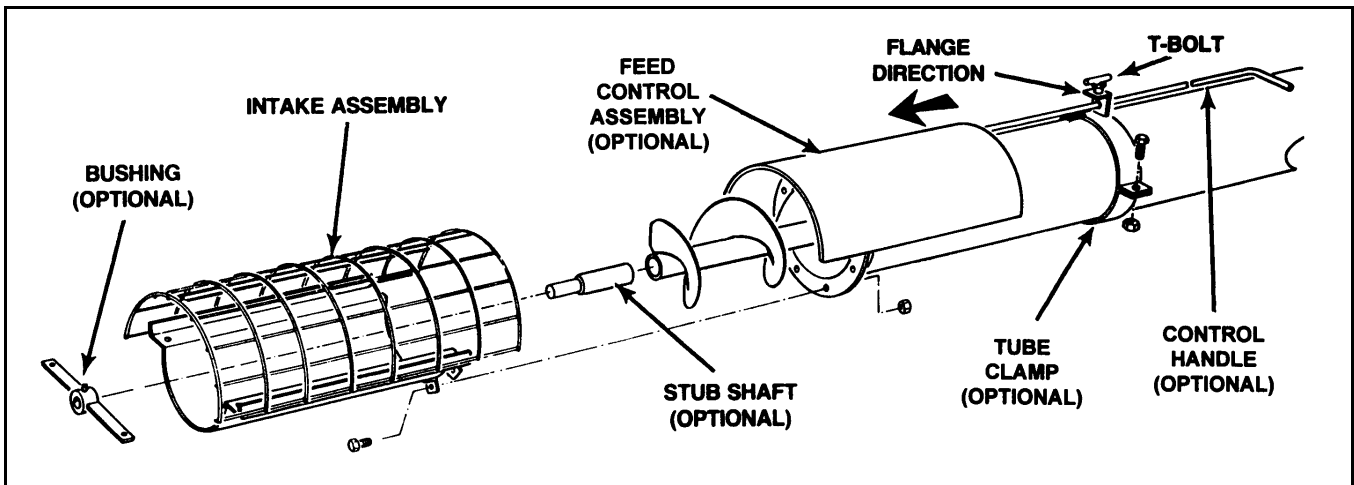

Figure 3.3 Intake/Optional Feed Control
1. Attach intake to lower end of auger tube with four 7/16" x 1" (7/16" x 1-1/4" for 13" auger) bolts and locknuts (except the 6" auger which requires three bolts and locknuts) (Figure 3.3).
- a. Attach the feed control tube clamp (Figure 3.3) to auger tube with two 7/16" x 1" bolts and locknuts. Do not tighten at this time.
In order to provide additional support for the lower flighting, an optional support bushing package is available. See Figure 3.3. To install: